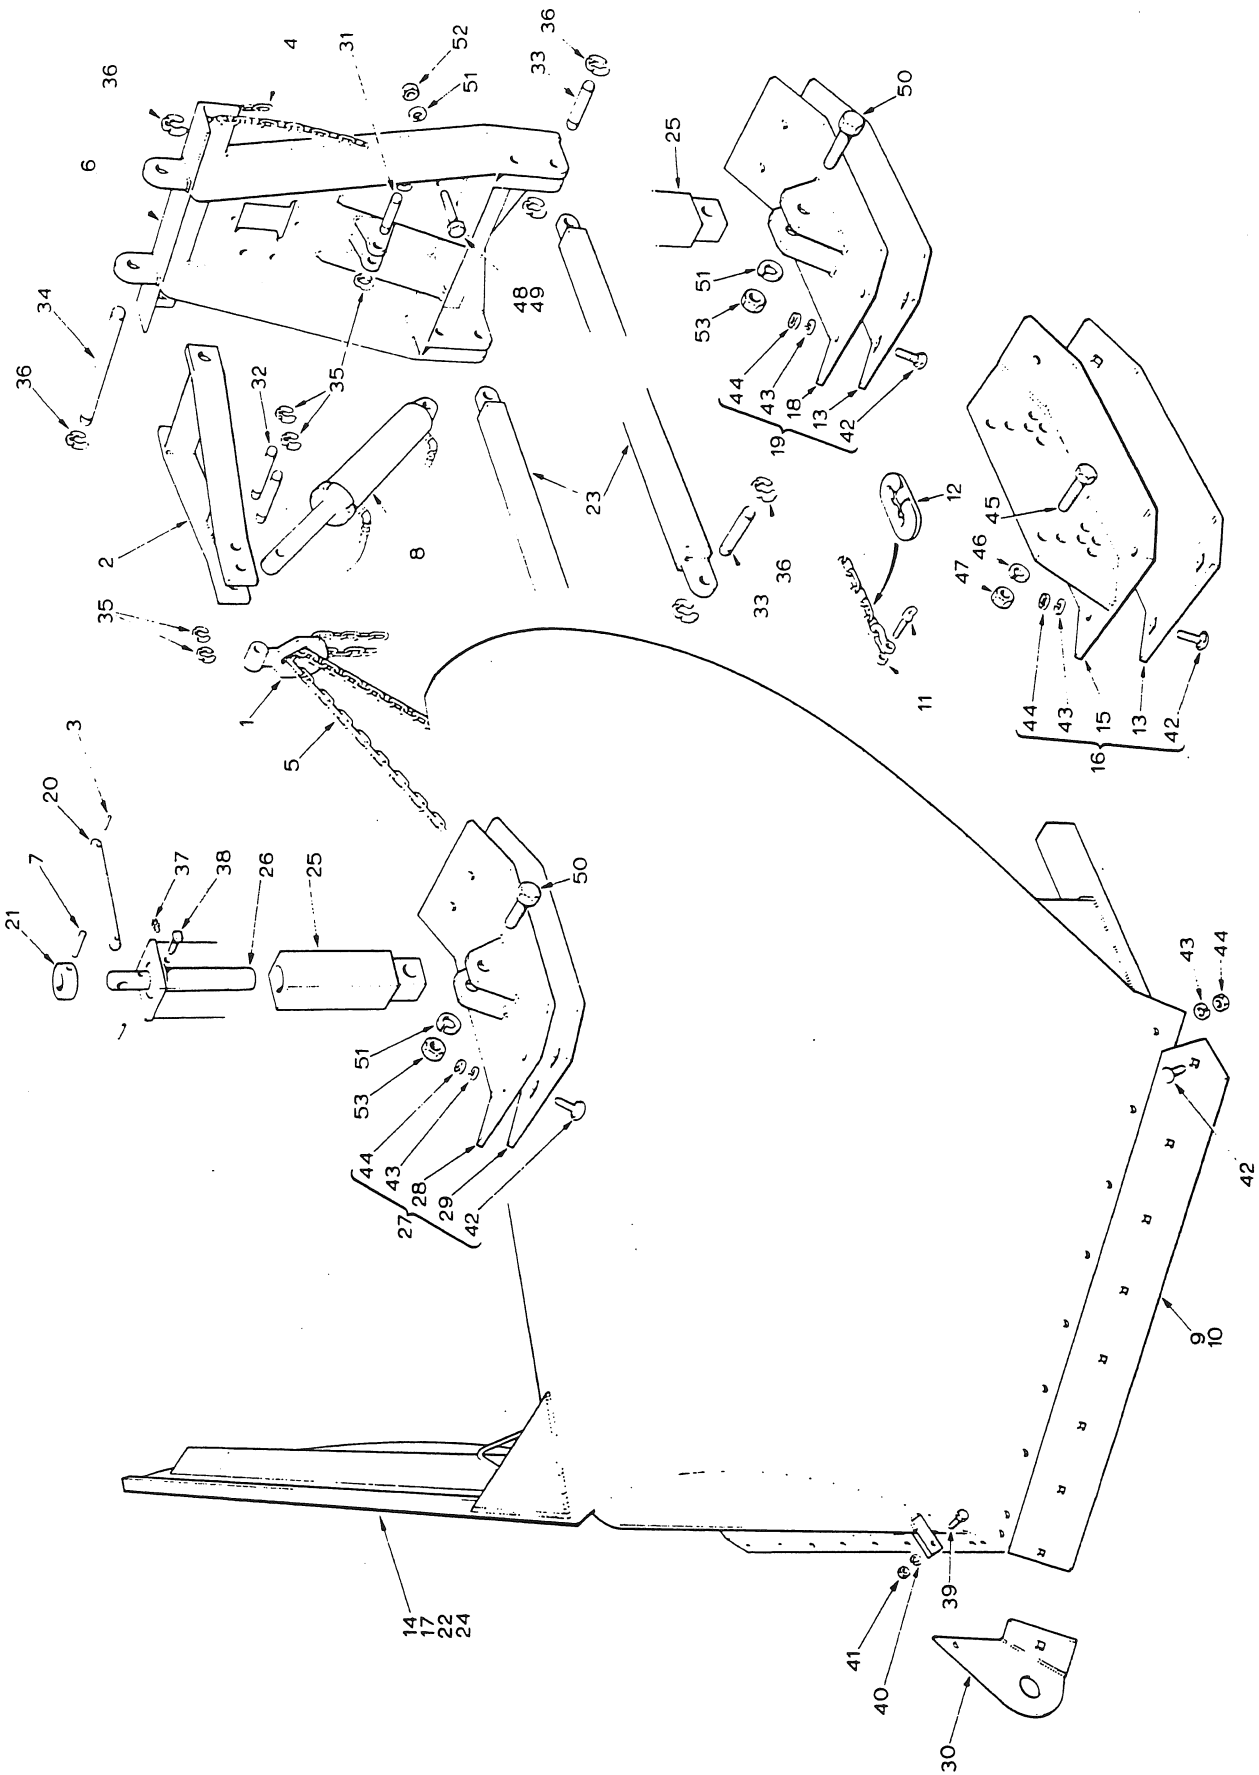
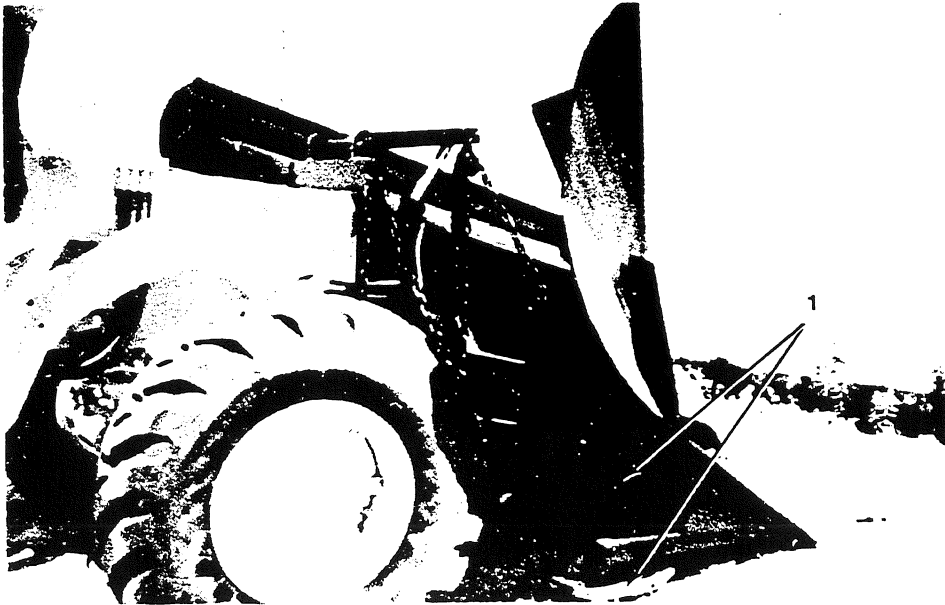
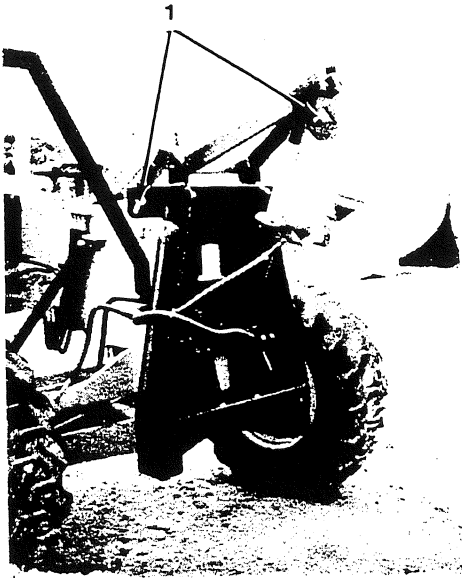

Figure 5
Figure 6
Figure 7
## KEY TO FIG. 5
V-PLOW (CHAIN LIFT)1. Removal and Disassembly (Fig. 5).WARNING:
5. Remove the klipring fasteners (36) securing the pins (33) connecting the push rods to the A-frame (6). Remove the pins and the push rods.
6. Attach suitable lifting tackle to the yoke (2). Remove the klipring fasteners (35) securing the pin (32) connecting the spade to the yoke. Remove the pin and spade.
7. Remove the klipring fasteners (35) securing the two pins (31 and 32) connecting the cylinder (8) to the A-frame and yoke. Remove the pins and cylinders.
8. Arrange the hoist in such a way that the lifting tackle will support the weight of the A-frame. Remove the eight hexagon head capscrews (48 or 49), nuts (52) and lockwashers (51). Lower the A-frame onto the ground. Remove the two klipring fasteners (36) securing the pin (34). Remove the pin and the yoke. Hoist the A-frame away from the grader. Remove the lifting tackle.
9. Assembly and Installation (Fig. 5). Install the yoke (2) onto the A-frame (6), and retain with the pin (34). Secure the pin with two kliprings (36).
10. Attach suitable lifting tackle to the yoke. Hoist the yoke and A-frame into position on the grader nose plate. Install the eight hexagon head bolts (48 or 49), nuts (52) and lockwashers (51).
11. Place the cylinder (8) in position, and retain with the pins (32 and 31) at the yoke and the A-frame. Secure each pin with two kliprings (35). Remove the lifting tackle.
12. Install the spade (1), and retain with the pin (32). Secure the pin with two kliprings (35).
13. Place the push rods (23) into position at the A-frame attachment points. Install the two pins (33), and secure with the kliprings (36).
14. Attach suitable lifting tackle to the V-plow blade (14, 17, 22 or 24) and place into position at the push rod attachment points. Install the two pins (33), and secure with the kliprings (36). Install the four chains (4 and 5), to the spade and the A-frame. Remove the lifting tackle.
16. Adjustments (Figs. 5, 6 and 7). The plow shoes should be adjusted so that the edges of the plow are high enough to prevent scraping the road surface (1, Fig. 6). Two types of shoe adjustment are available as follows:
- a. Standard Shoes. Four standard shoes (16, Fig. 5) - two front, two rear are retained on the V-plow blade frame by two hexagon head bolts (45, Fig. 5), nuts (47, Fig. 5) and lockwashers (46, Fig. 5) per shoe. Adjustment is effected by raising the V-plow blade off the ground, removing the hardware, selecting the new position and installing the hardware into the alternative holes. Lower the blade.
- b. Optional Shoes. Three shoes - one front (27, Fig. 5), two rear (19, Fig. 5) - are available as an optional arrangement, and are connected to an adjustment screw and swivel assembly by one hexagon head bolt (50, Fig. 5), nut (53, Fig. 5) and lockwasher (51, Fig. 5) per shoe. Adjustment is effected by raising the V-plow blade off the ground and turning the adjusting screw handle (20, Fig. 5) until the desired height is obtained. Lower the blade.
17. If the V-plow blade tends to tip to one side or the other when being raised or lowered, remove any slack in the chains (4, Fig. 5) by adjusting at the A-frame slots. Similarly, remove any slack in the chains (5, Fig. 5) by adjusting at the spade slots until a level movement is obtained (1, Fig. 7).
18. Worn edges (9 or 10, Fig. 5) can be replaced by removing the required quantity of carriage bolts (42, Fig. 5), nuts (44, Fig. 5) and lockwashers (43, Fig. 5); then removing the edges.
20. Worn outer shoes (13 and 29, Fig. 5) can be replaced by removing the required quantity of carriage bolts (42, Fig. 5), nuts (44, Fig. 5) and lockwashers (43, Fig. 5); then removing the outer shoe.